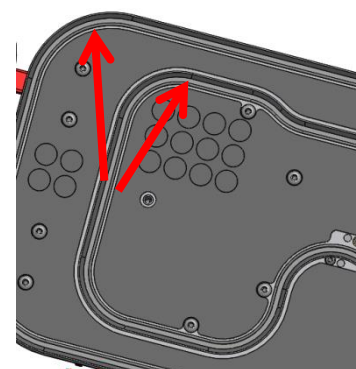

Figure: 24
- If the vacuum lifter is not on the transport dolly, it must be placed on wooden beams. Place two wooden beams under the suction cup. Make sure the beams do not contact the narrow sealing rubbers (see figure 24).